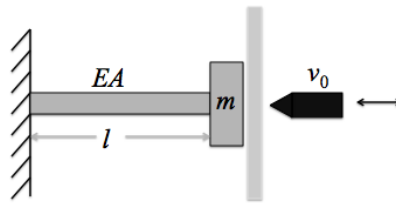

Figure P1.91 A bar model of a punch fixture.
- 1.91** A bar of negligible mass fixed with a tip mass forms part of a machine used to punch holes in a sheet of metal as it passes past the fixture as illustrated in Figure P1.91. The impact to the mass and bar fixture causes the bar to vibrate and the speed of the process demands that frequency of vibration not interfere with the process. The static design yields a mass of 50 kg and that the bar be made of steel of length 0.25 m with a cross sectional area of 0.01 m². Compute the system's natural frequency.
- 1.92** Consider the punch fixture of Figure P1.91. If the system is giving an initial velocity of 10 m/s, what is the maximum displacement of the mass at the tip if the mass is 1000 kg and the bar is made of steel of length 0.25 m with a cross sectional area of 0.01 m²?
- 1.93** Consider the punch fixture of Figure P1.91. If the punch strikes the mass off center it is possible that the steel bar may vibrate in torsion. The mass is 1000 kg and the bar 0.25 m-long, with a square cross section of 0.1 m on a side. The mass polar moment of inertia of the tip mass is $10 \text{ kg}\cdot\text{m}^2$. The polar moment of inertia for a square bar is $b^4/6$, where b is the length of the side of the square. Compute both the torsion and longitudinal frequencies. Which is larger?